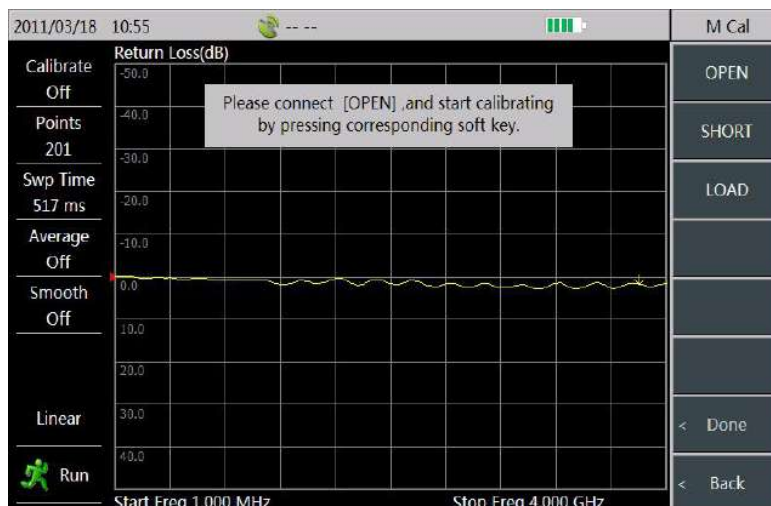

Figure 3-7 Measure Open Circuit/OPEN
3) Connect the open circuit to the calibration port, press [OPEN] key and then the prompt message saying “[OPEN] Measuring...” will be popped up on the display screen as shown in Figure 3-7: